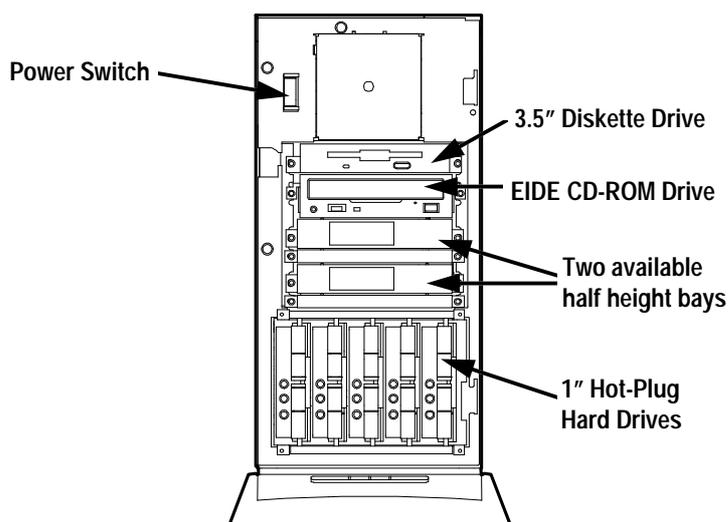

Figure 10. Front view of the Compaq ProLiant 2500 Server chassis showing four removable media bays and a hard drive cage containing five 1-inch hot-plug drives.
- **ProLiant 2500 Hot-Plug (5 x 1-inch) Option Kit.** A hot-plug drive cage optimized for five 1-inch hot-plug hard drives. This cage is identical to the cage used in the standard ProLiant 2500 hot-plug model (see Figure 10). It is the appropriate choice for customers standardizing on 1-inch drives to achieve higher spindle density. This cage will also support 1.6-inch hot-plug drives; it can be configured with up to two 1.6-inch hot-plug drives plus one 1-inch hot-plug drive.